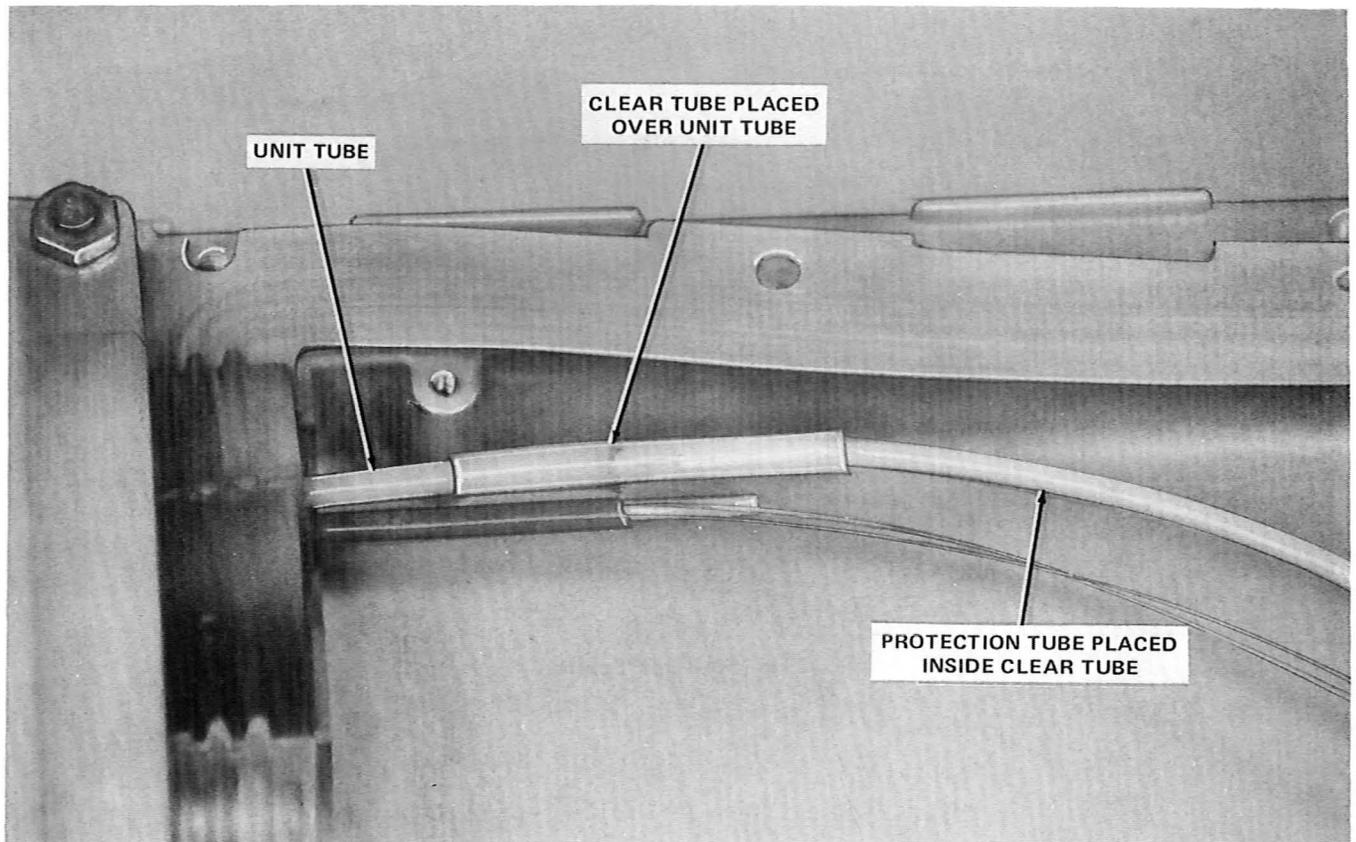

Fig. 52—FLEXGEL Blocking Seal Completed
7.13 Push the clear tube onto the unit approximately 1 inch and then place the protection tube inside the clear tube until it butts against the unit tube, as shown in Fig. 52.